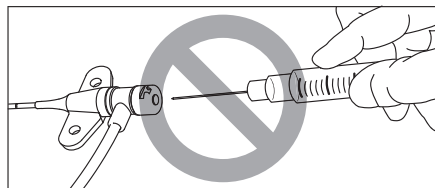

Figure 11
- ⚠ Caution: Never attempt to insert a needle or a blunt cannula into the seal in back of catheter hub (refer to Figure 11).**